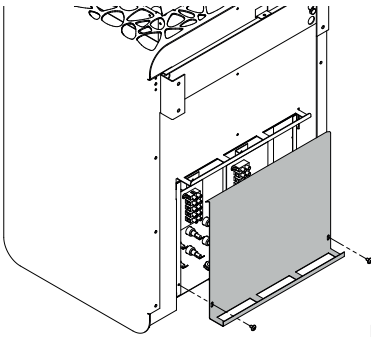

Fig. 5
- Open the cover of the terminal box - remove 2 screws. (Fig. 5)